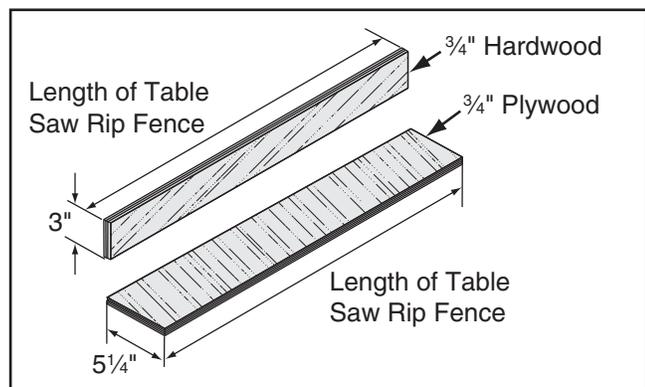

Figure 91. Auxiliary fence dimensions.
1. Cut a piece of $\frac{1}{2}$ " thick plywood $5\frac{1}{4}$ " wide and as long as your table saw fence; cut a piece of $\frac{3}{4}$ " thick hardwood 3" wide and as long as your table saw fence (see **Figure 91**).